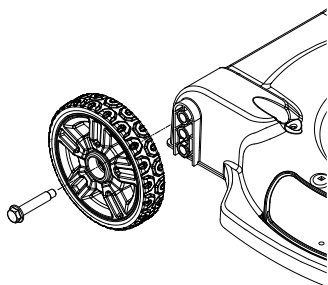

Fig. 4
2. Screw each wheel with axle bolt (Figure 4).